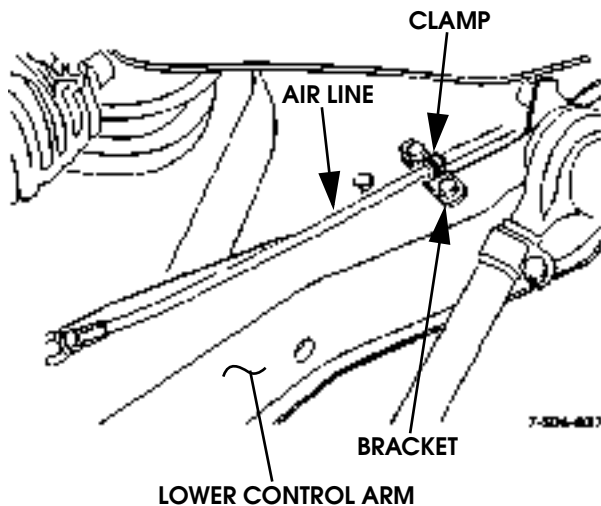

Figure 6-70: Line Bracket and Clamp Location
2. Loosen clamp on bracket attached to lower control arm, then move air line out of bracket (Figure 6-70).